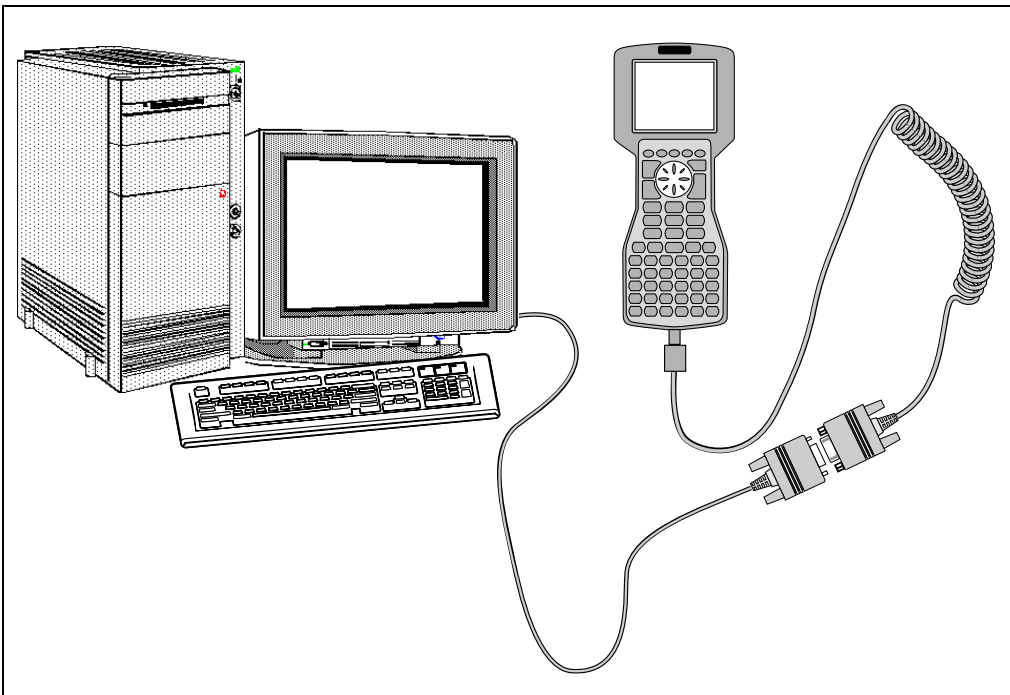

Figure 4.1 Connecting the TSC1 datalogger to the PC
2. Connect the null modem cable to the serial port on the PC, as shown in Figure 4.1.